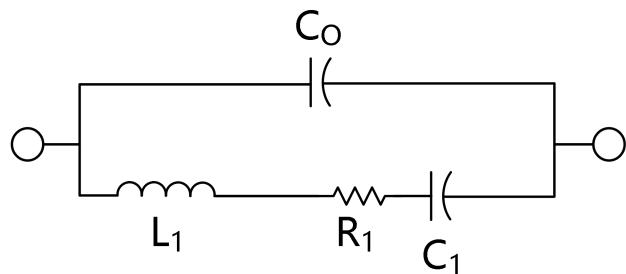

Figure 3. Crystal equivalent circuit.
Figure 3 shows the equivalent circuit for a crystal. Near the resonate frequency the circuit consists of a series circuit including motional inductance L1, motional resistance R1, and motional capacitance C1. The parallel component C0 is the shunt capacitance of the crystal.
4. Temperature. The further the operating temperature is from the crystal turnover temperature, the slower the crystal oscillates. See Figures 3 and 4.